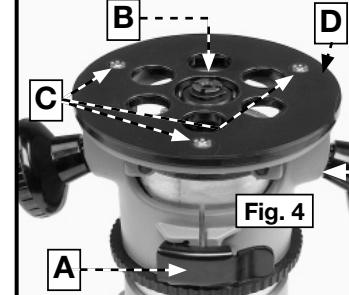

Fig. 4
1. Loosen the sub-base mounting screws (C) Fig. 4 just enough to allow the sub-base (D) to move.
2. Open the clamp and adjust the power unit so that the collet nut (B) engages the center hole in the sub-base (D). Allow the sub-base to center itself on the collet nut. Close the clamp.
3. Tighten the sub-base mounting screws (C) Fig. 4 securely.